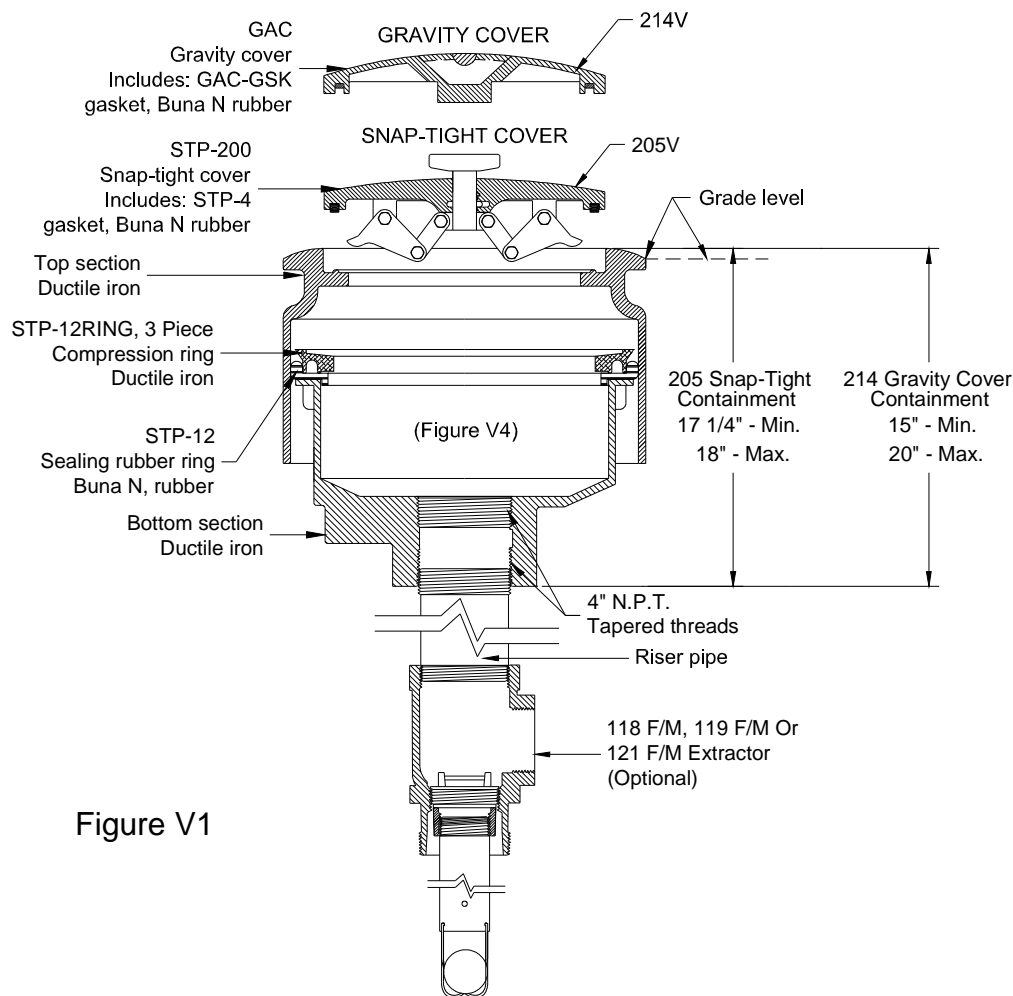

Figure V1
- a) The length of the 4 inch riser pipe will vary depending upon the height dimension of the 2 piece ductile iron containment and the depth of the underground storage tank. Regardless of these variables, keep in mind that the 205V and 214V have an adjustable height. (See Figure V1 above for the minimum and maximum dimensions.)
- b) To determine the length of the vapor riser pipe, measure the distance from the grade level to the top of the extractor, tank bung, or T-fitting (see Fig. V1).